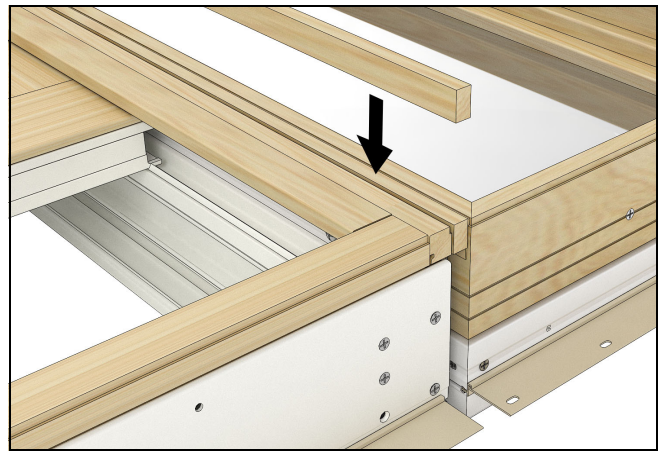

Figure 11
11. Insert 1/2" mull support on top of the MRF between the cavity of the two frames. Ensure the mull support is flush with the interior plane of the unit frames. See Figure 11.